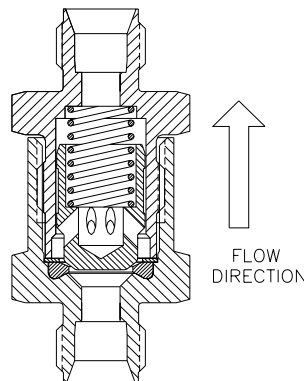

Figure 1: C Series Check Valve with PTFE Seats Cross Sectional View
2. Refer to Figure 1. Place the new Seal in the Cap exercising care not to damage or scratch the Cap's interior.